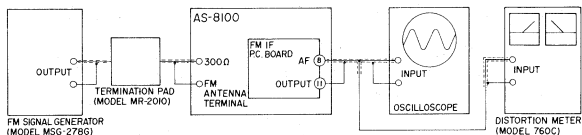

Fig. 9
5. MUTING SENSITIVITY ADJUSTMENT (See Figs. 9 and 10)